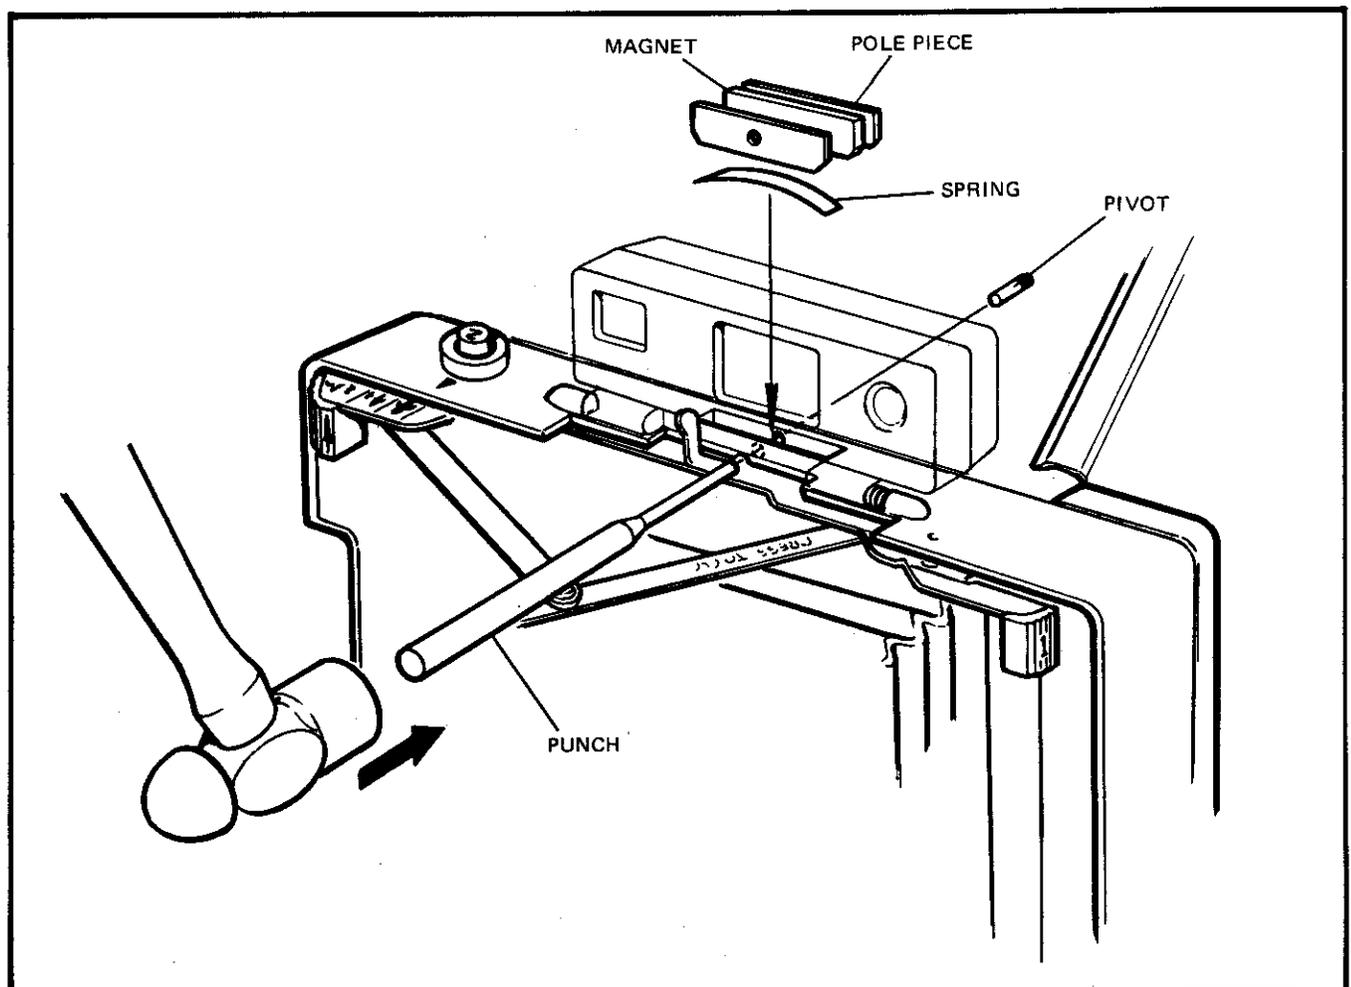

FIG. 5.45 DRIVING OUT THE MAGNET PIVOT
- Using a 1/16th inch drive pin punch, tap out the magnet pivot as shown in Figure 5-45.
NOTE: If you have difficulty making a good topside adjustment, check the RF/VF magnet. On some cameras the magnet pivot (Figure 5-45) has a slotted head which can be turned, changing the position of the magnet. Doing this may help in bringing in topside.